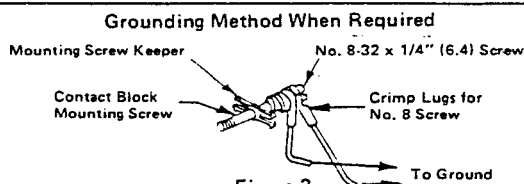

Figure 3
- Ground operator as shown in Figure 3, when required.